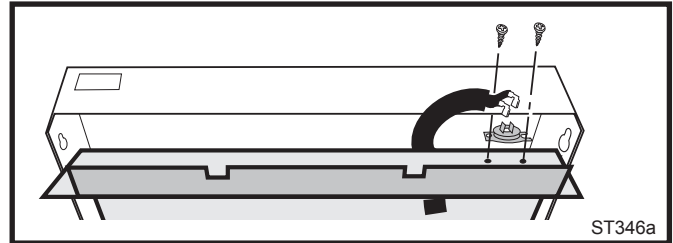
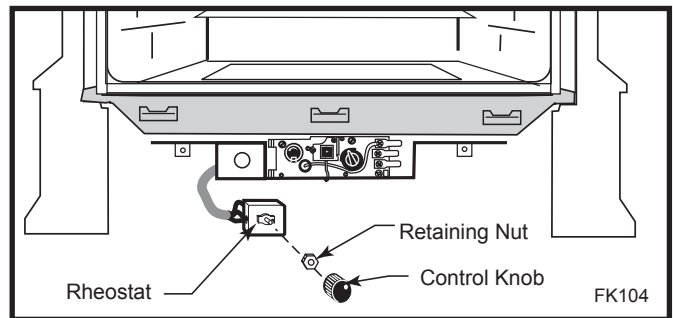

Fig. 4 Attach snapstat to inner shroud.
Fig. 5 Attach rheostat to bracket.
3. Feed the snapstat wire lead up between the inner and outer rear shroud panels and secure the snapstat to the upper right side of the inner shroud. (Fig. 4)
5. Replace shroud and tighten the two (2) hex head nuts on lower inside of shroud.
7. Install the rheostat onto the bracket to the left of the valve. (Fig. 5)